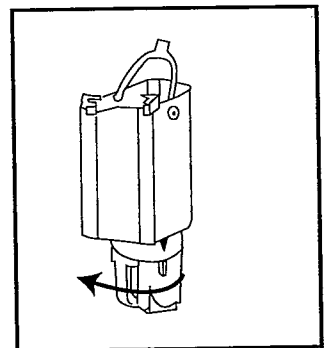

Figure 3
5. While holding Charcoal Filter Water Chamber, grasp Charcoal Filter Holder and turn counter-clockwise as shown. Remove Charcoal Filter Holder from Chamber. See Figure 3.